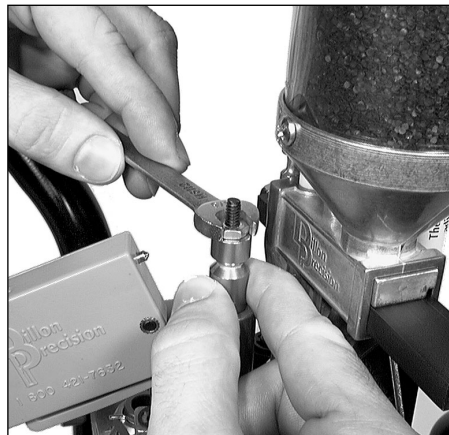

FIG 143
7. Snug the lock nut with a 3/8" wrench **FIG 143**.